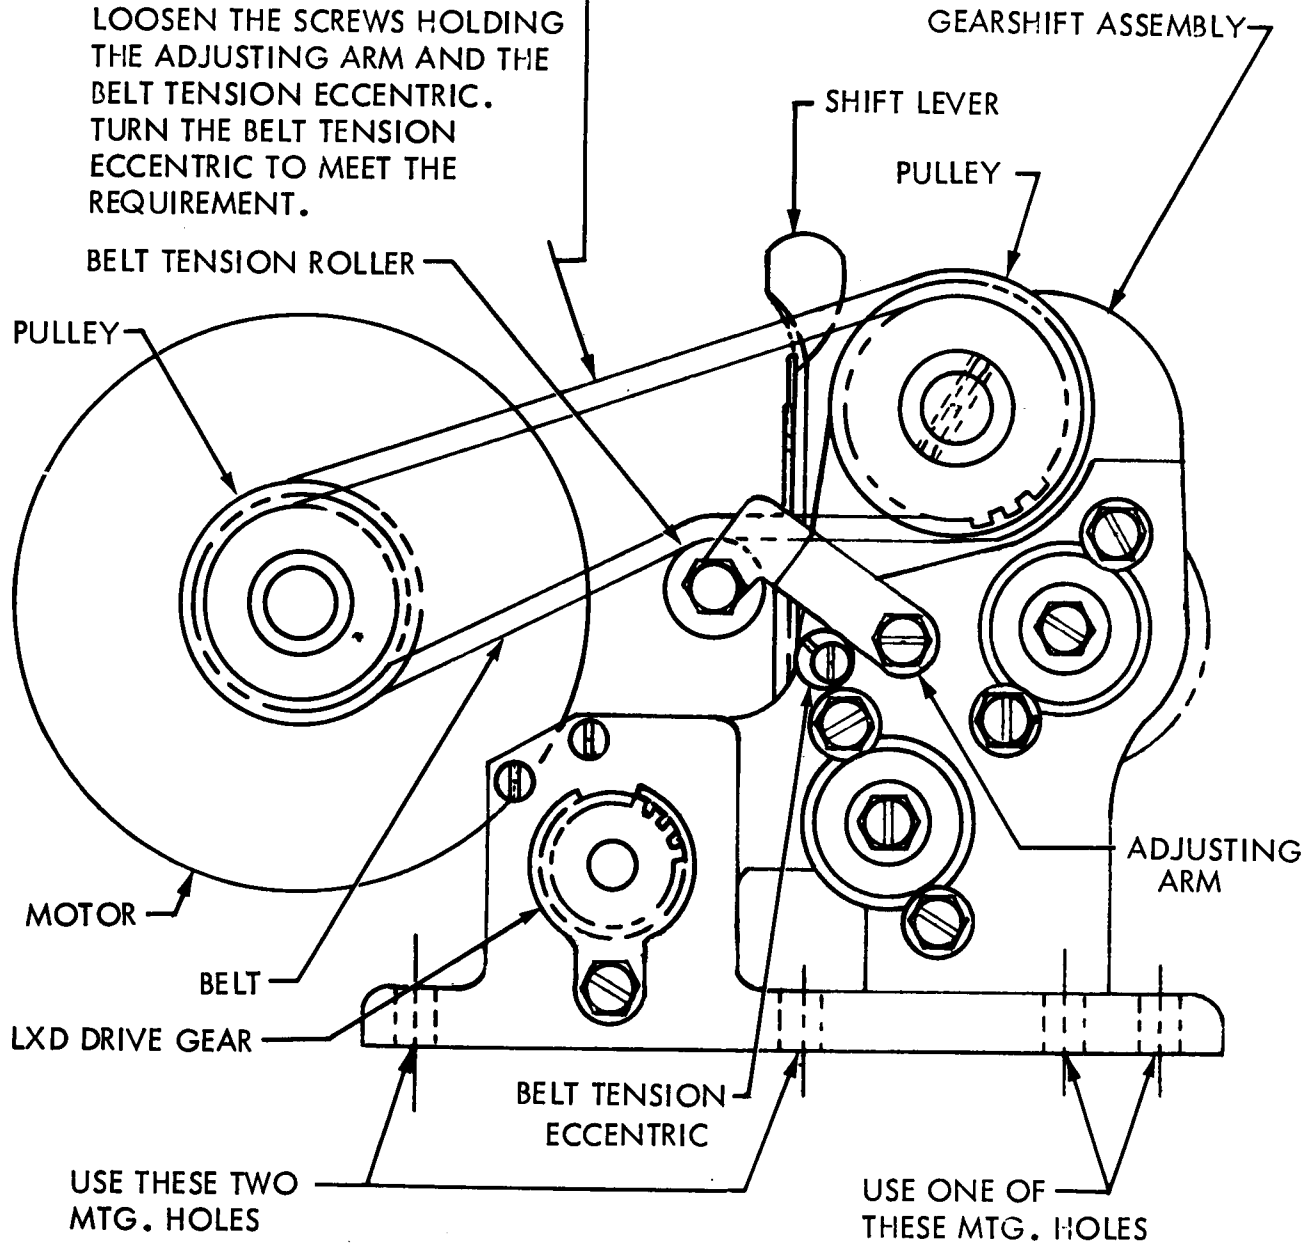

FIGURE 2 GEARSHIFT ASSEMBLY MOUNTING
There are four mounting holes in the casting. Use the three holes that line up with the tapped holes in the base. See Figure 2.
6. Put 146647 belt between motor pulley and the pulley on the gear-shift assembly. Adjust belt tension as per Figure 2.
13. Put the 195448 belt between the motor pulley and the gearshift pulley. Adjust as per Figure 2.
(1) For standard adjustments and lubrication of associated equipment see Section 6.
(2) Make the adjustment shown on Figure 2 and lubricate as per Figure 3.
d. PRINCIPLES OF OPERATION (See Figure 2 and 3)
(1) The 195447 pulley is fastened to the motor shaft and drives the belt thereby rotating the idler shaft thru its 195450 pulley. The idler shaft gear engages a gear on the fixed shaft thus rotating the fixed shaft.
(2) Rotation of the fixed shaft rotates all three of the gears pinned to it which engage with mating gears on the variable speed shaft, which are free to rotate on the shaft. When the 145386 collar is moved the 145383 key engages with one of the three gears rotating on the variable shaft. Since each of the three gears provides a different ratio and speed, the variable shaft rotates at the speed determined by the gear set with which the key is engaged.
(3) Another gear is fastened to the variable speed shaft which meshes with the gear on the fourth shaft. The transmitter-distributor drive gear is fastened to the fourth shaft to drive the LXD at the speed determined by the selected gear set.